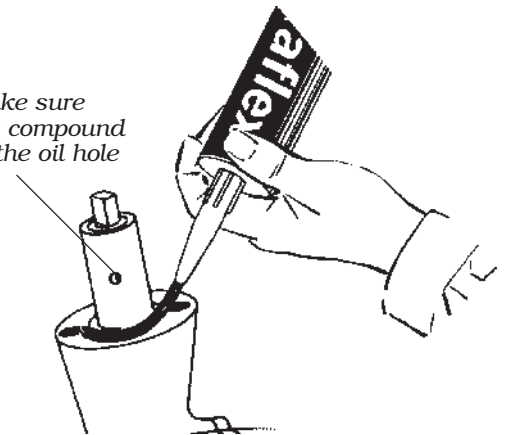

Fig.11
1. Put Sikaflex or equivalent around the gear house flange and a thin layer in the bolt holes to make sure the bolts are securely fastened. Make sure no sealing compound is obstructing the oil hole! See fig. 11.